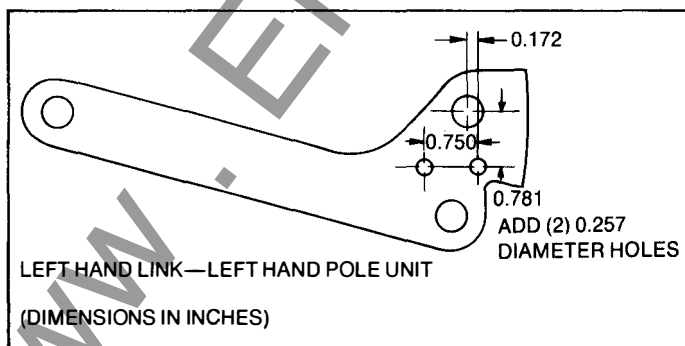

Fig. 3-2. Actuator bracket – mounting hole pattern
If the actuator bracket mounting holes are not in the left side link, the holes must be added. Drill and tap two (2) five-sixteenths ($\frac{5}{16}$) of an inch x 18-inch holes using the hole pattern given in Fig. 3-2.